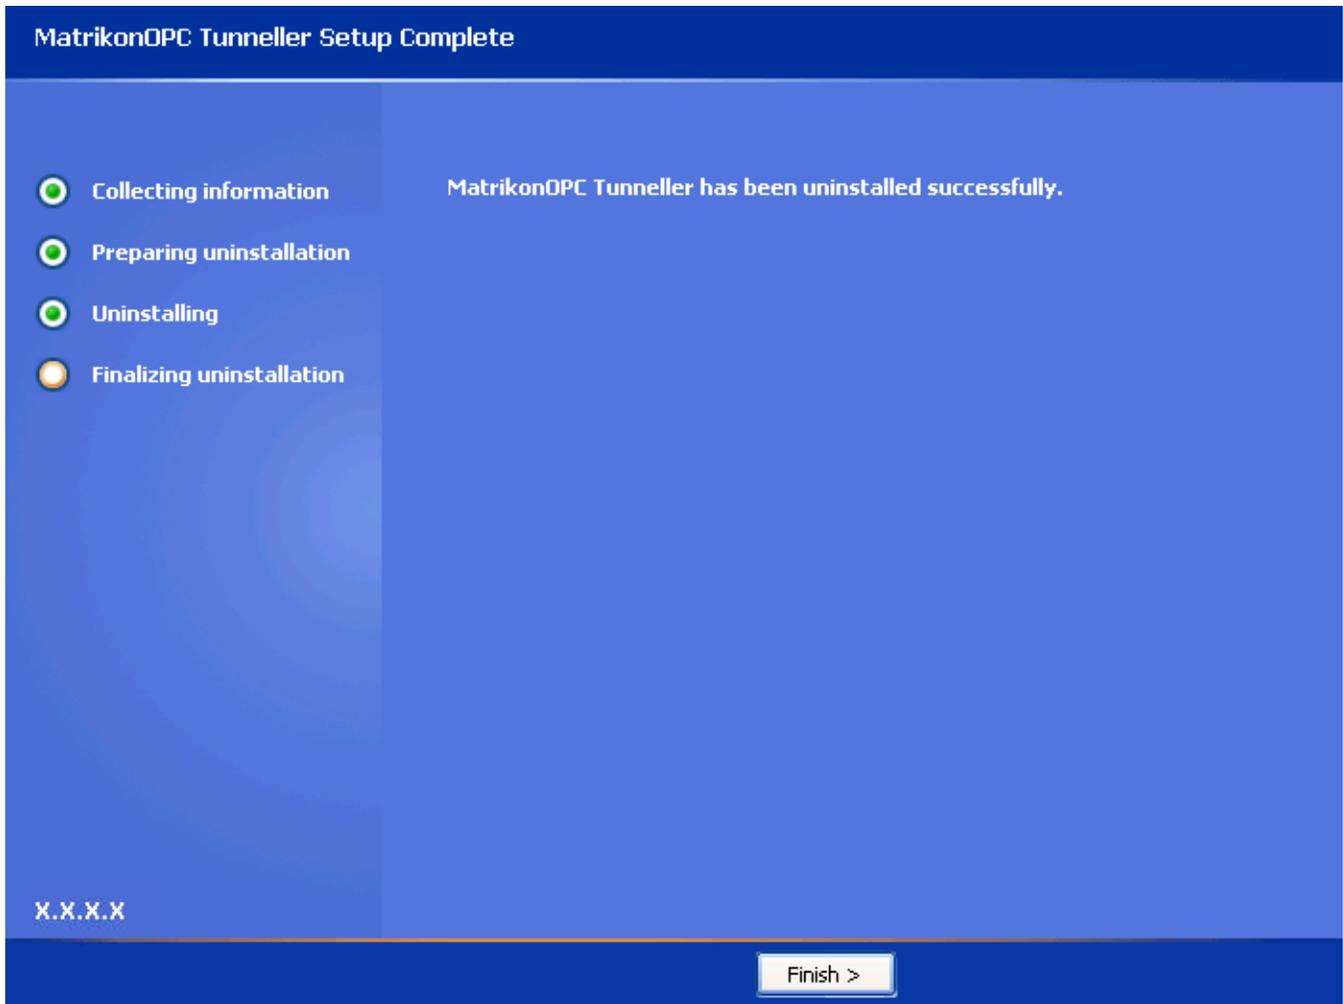

Figure 38 - MatrikonOPC Tunneller Setup Complete Screen
12. When the un-install has finished, the **MatrikonOPC Tunneller Setup Complete** screen (Figure 38) appears stating that MatrikonOPC Tunneller was successfully un-installed.